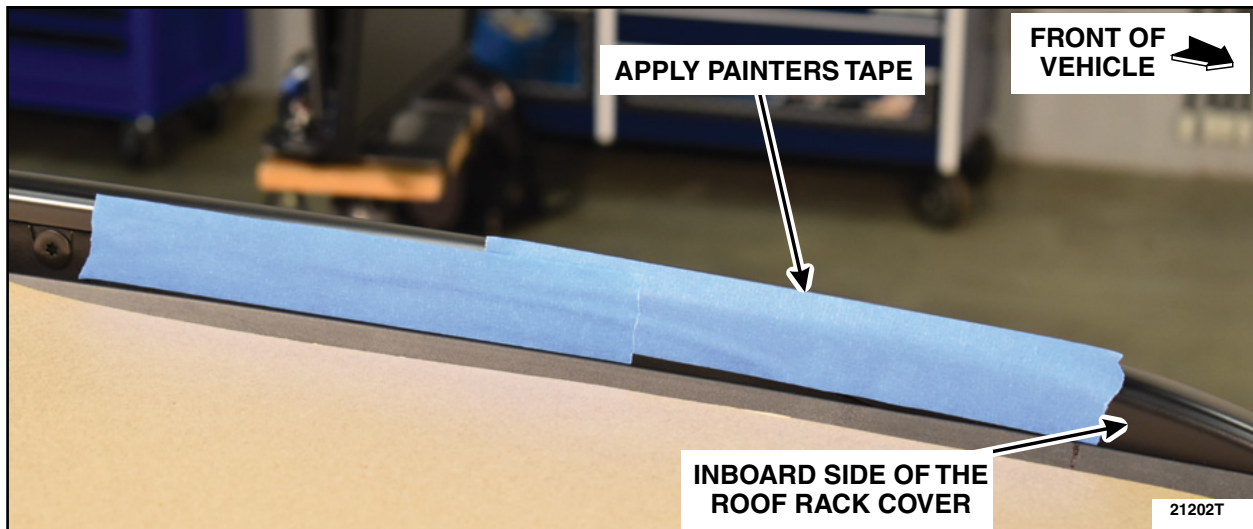

FIGURE 17
6. At the front of the vehicle, apply painters tape to the inboard end of the roof rail cover. See Figure 17.